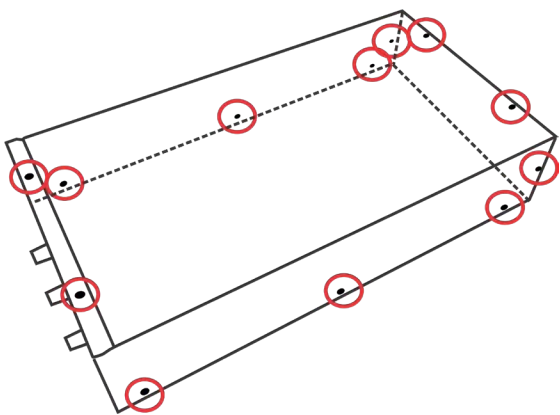

Figure 5.1 – 7114/7118 Cover Screw Locations
2. Use a #1 Phillips screwdriver to remove the Phillips-head screws, as shown in **Figures 5.1 and 5.2**.